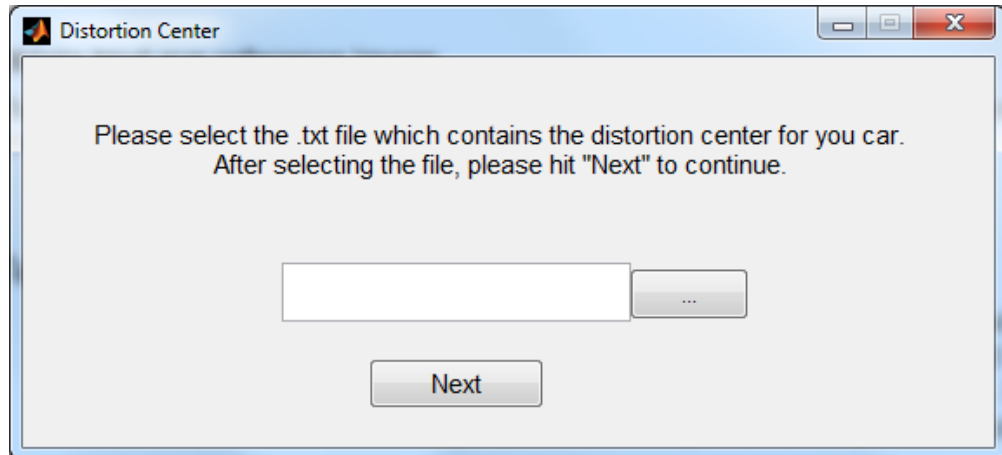

Figure 9 – Calibration Tool start window.
1. By running "calibration_tool.exe" in folder ./calibration_tool/, first you will see the windows shown in Figure 9. It will ask you to select the .txt file which contains the distortion center. For Jeep No. 1 – 8, the files have already been generated. For new assembled car, please refer to Sec. 4 to generate new distortion center file.